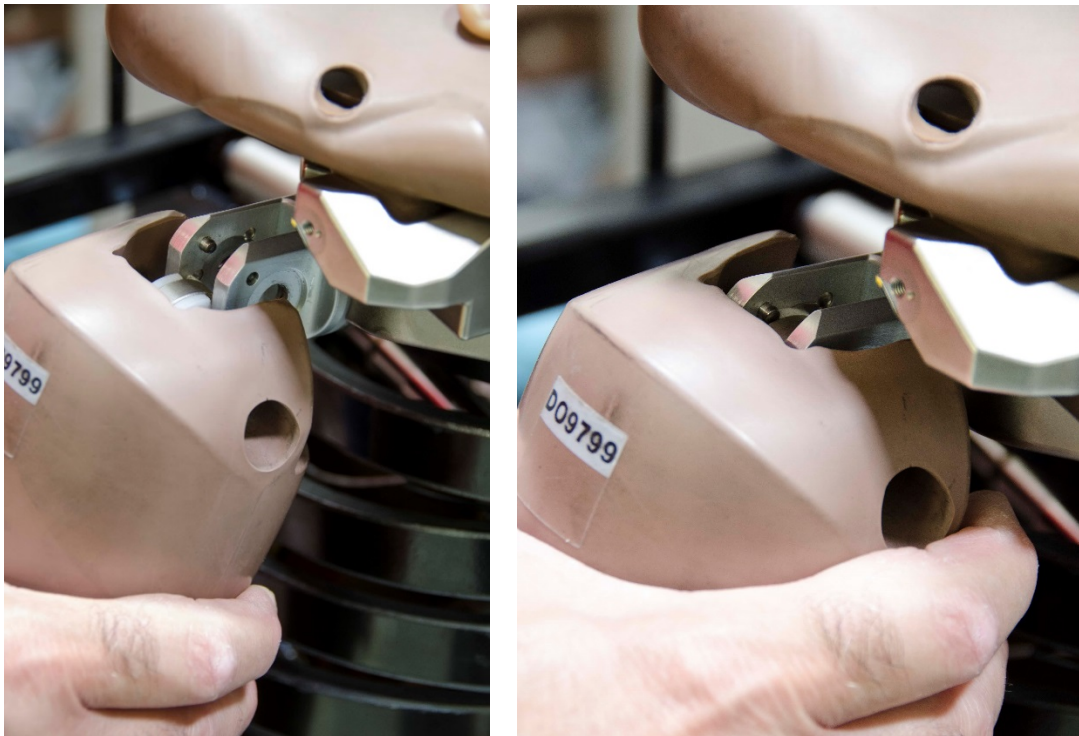

Figure 13-19. Insert arm into clevis and align pins
13.2.3.4 Insert the arm into the arm clevis so that the detents in upper arm bushing and upper arm washer align with the pins (Figure 13-19). Rotate the arm within the clevis using the detents and pins to guide the arm into place.